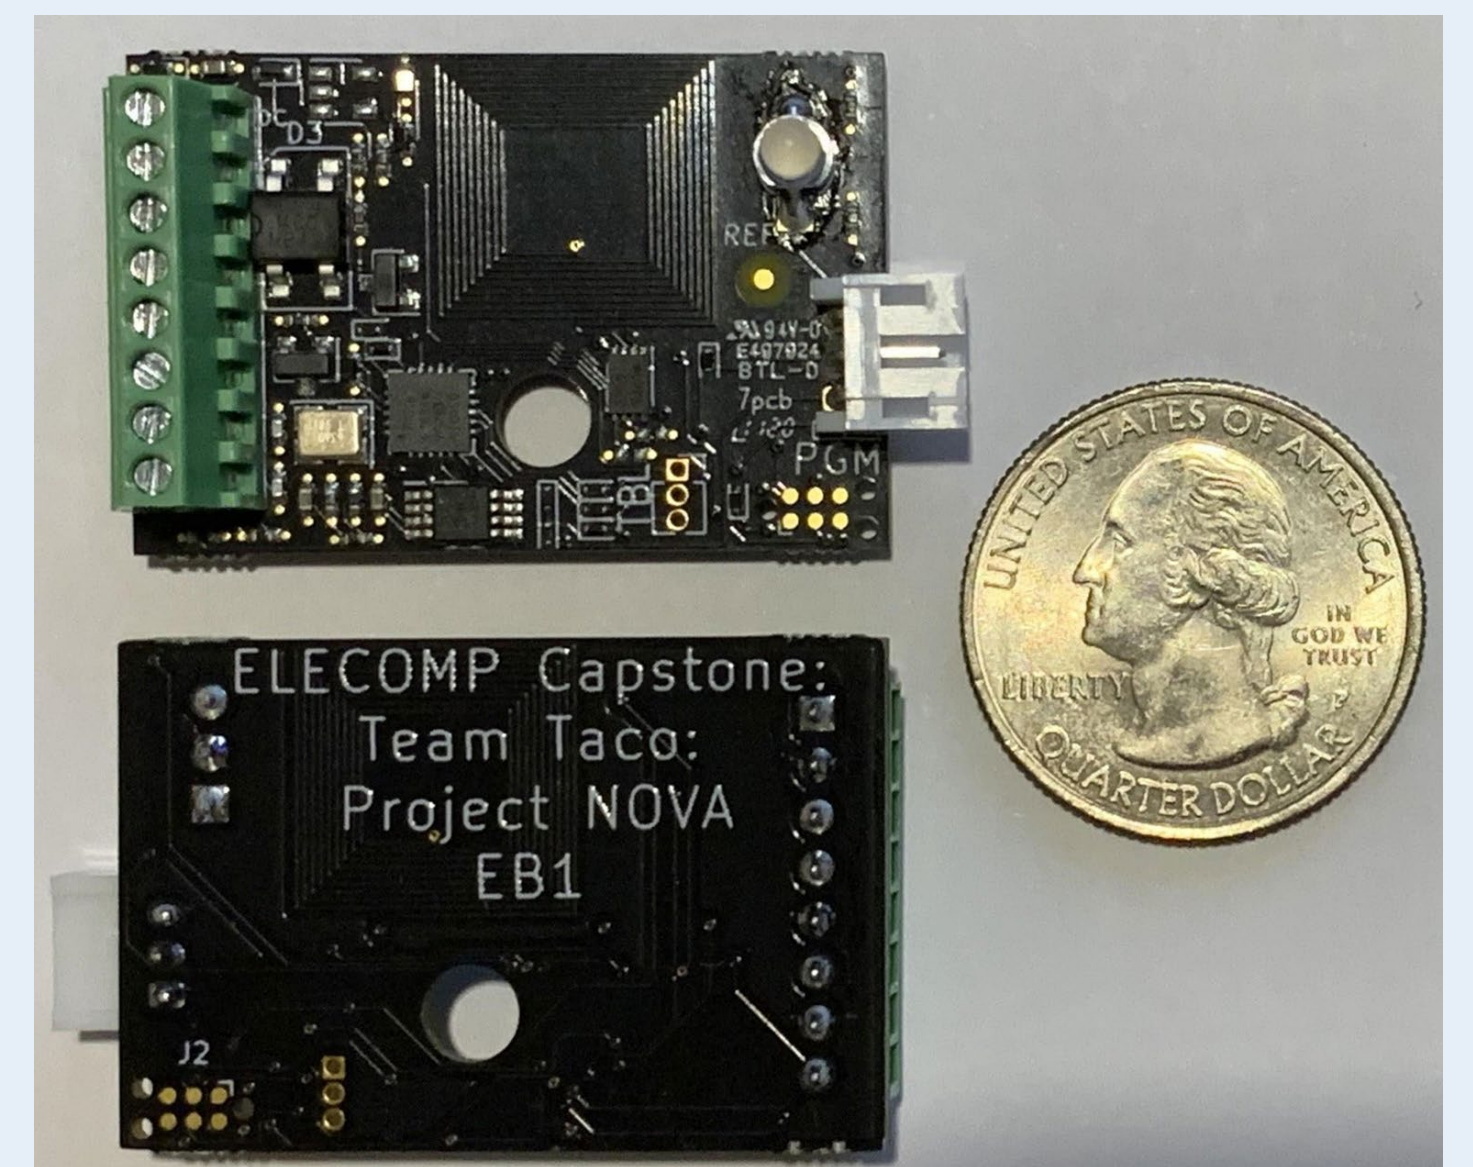

Figure 1 - Photo of the Revision 2.0 VPWMC production boards with U.S. quarter for scale
**Printed Circuit Board:** The printed circuit boards for the project have been received and tested. Two boards have been produced; a development board which has additional I/O and is larger, and then a small production style board which will fit in the provided Taco enclosure. The production style board is a 2-layer printed circuit board and contains a 2-layer NFC antenna for the dynamic NFC tag. The production printed circuit boards have very limited space available for components due to the way the existing enclosure is designed. We managed to fit the NFC antenna well and have verified that the design enables such communication. (Figures 1 and 2)